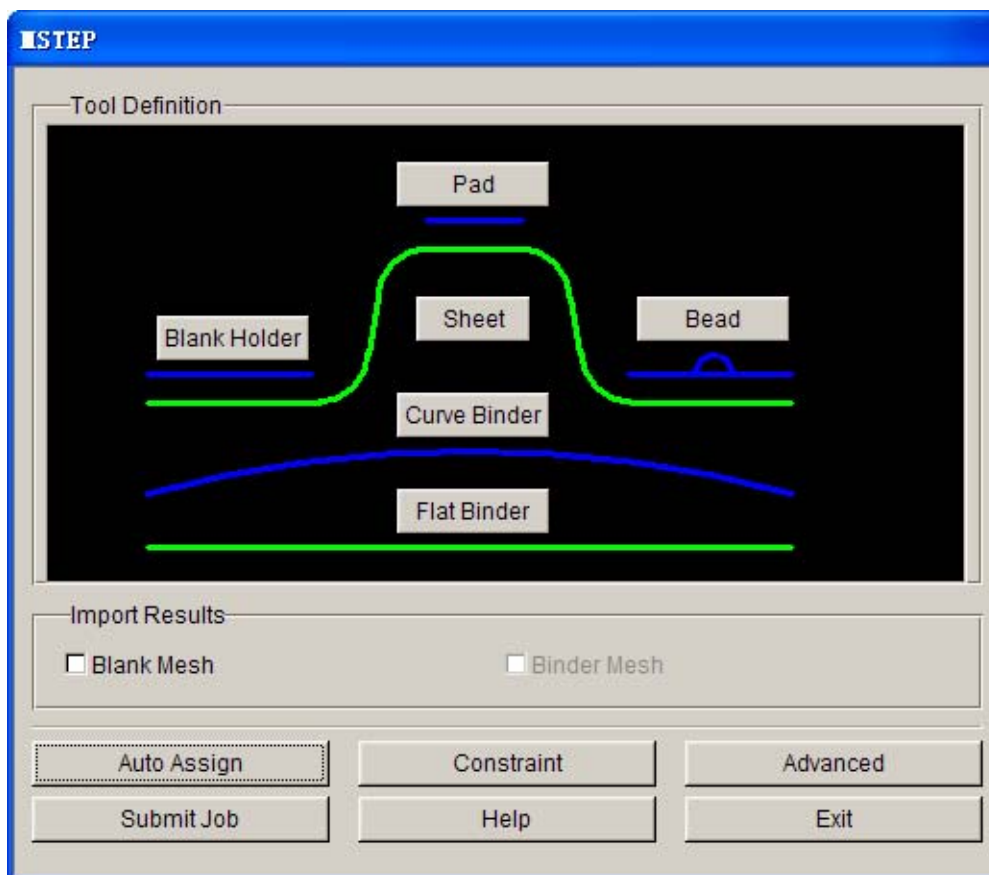

Figure 4.36: MSTEP of sheet definition
- 11) Click “OK” to return to the MSTEP dialogue window, user can find the outline representing the sheet metal in the dialogue window has changed from red into green, which indicates the define of sheet-metal tool has been completed. See figure 4.36.